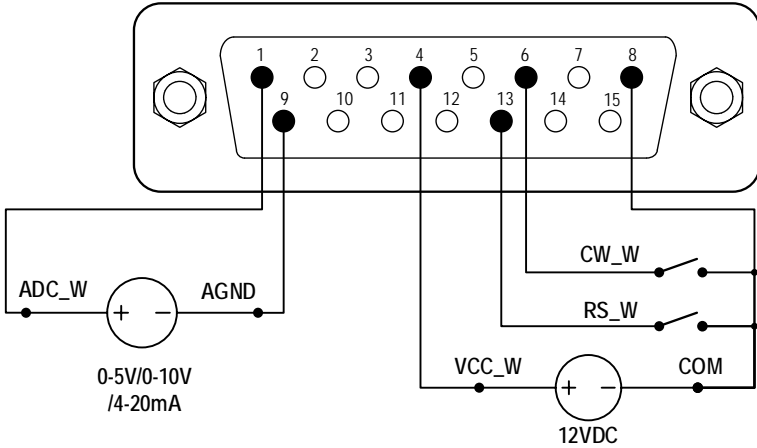

Figure 11. DB15 Wiring with External 12VDC Power Source
- 1) Switch the power off. Wire the DB15 connector as shown on *Figure 11* or *Figure 12*, and connect it to the DB15 port on the rear of the pump.